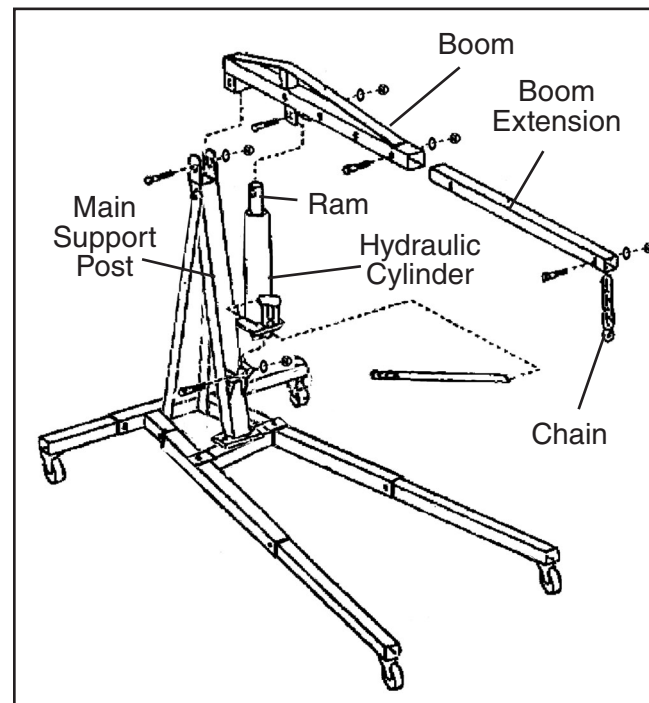

Figure 10. Boom assembly.
8. Attach the bottom of the hydraulic cylinder to the pad on the main support post (**Figure 10**) with one M16-2 X 90 hex bolt, washer, and nut.
9. Install the boom on the top of the main support post (**Figure 10**) with one M20-2.5 X 120 hex bolt, washer, and nut.
10. While an assistant holds the boom, connect the ram to the boom (**Figure 10**) with one M16-2 x 70 hex bolt, washer, and nut.
11. Insert the boom extension into the boom, making sure that the slot for chain is facing down (**Figure 10**).
12. Select one of the four load rating holes in the boom (**Figure 10**), and secure the boom extension in that rated load position with one M16-2 x 90 hex bolt, washer, and nut.
13. Attach the chain to the end of the boom assembly (**Figure 10**), and secure it with one M14-2 x 80 hex bolt, washer, and nut.